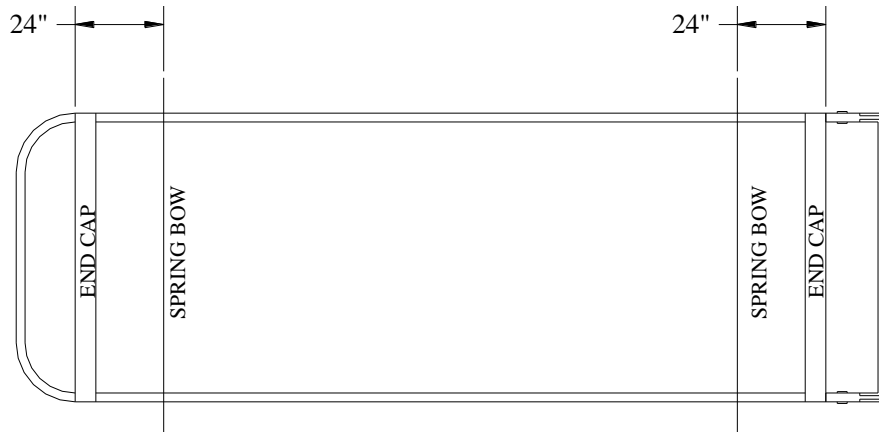

Figure 2.
1. Measure from the outside edge of the front end cap 24 inches and put a mark on each top rail. Refer to figure 2.
2. Measure from the outside edge of the rear end cap 24 inches and put a mark on each top rail. Refer to figure 2 below.